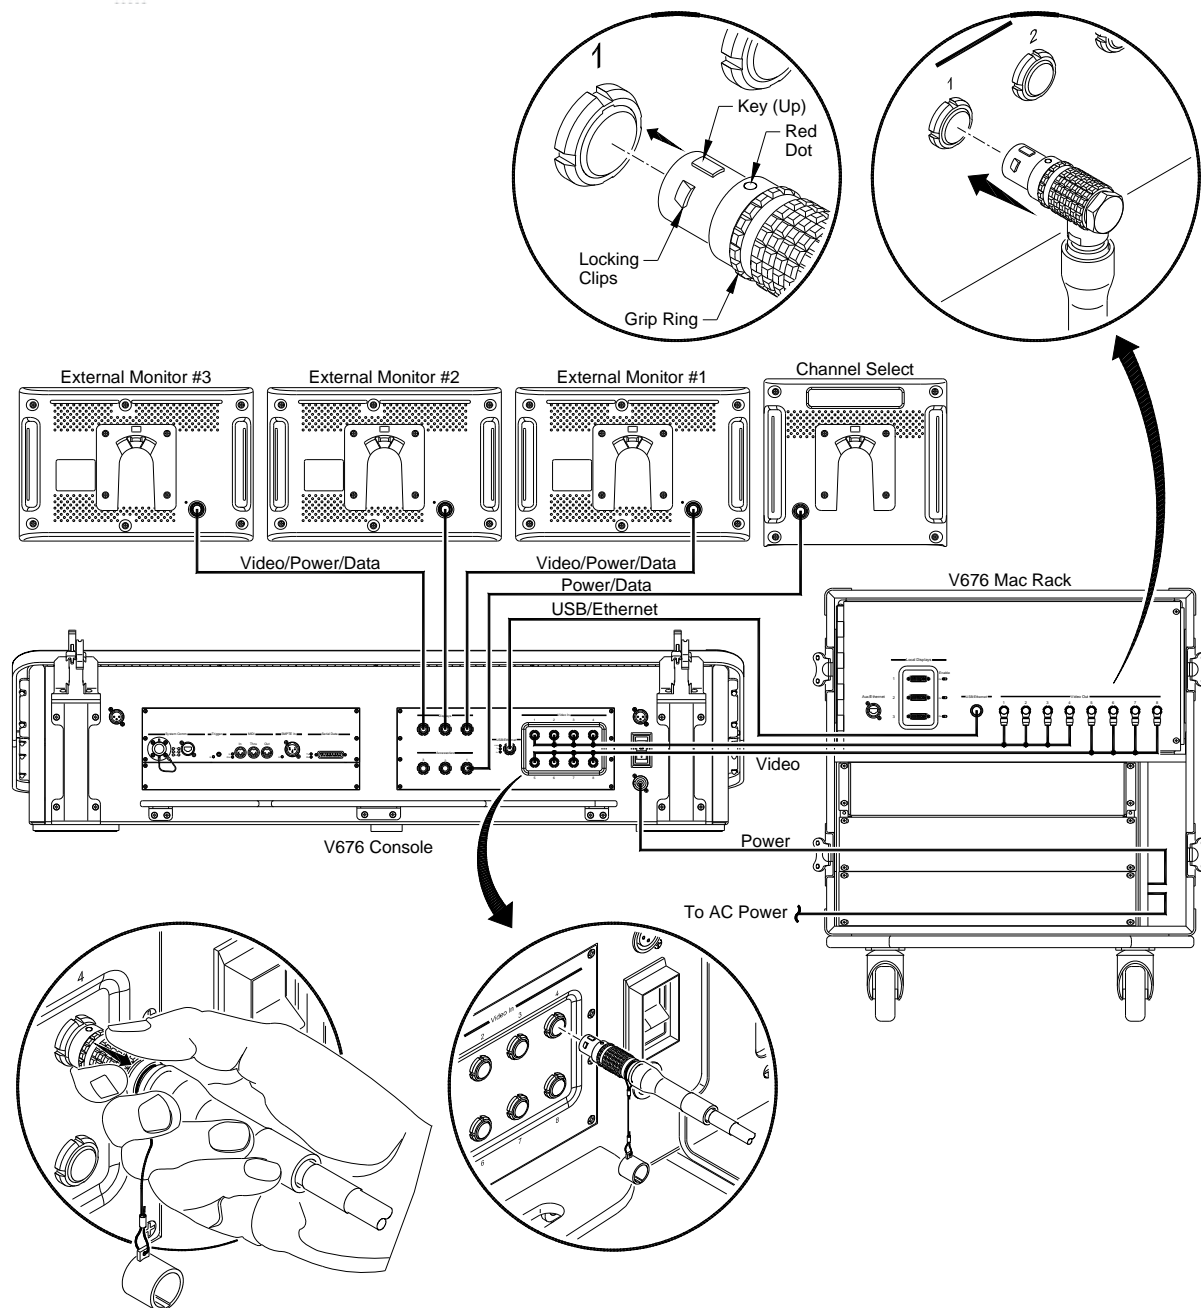
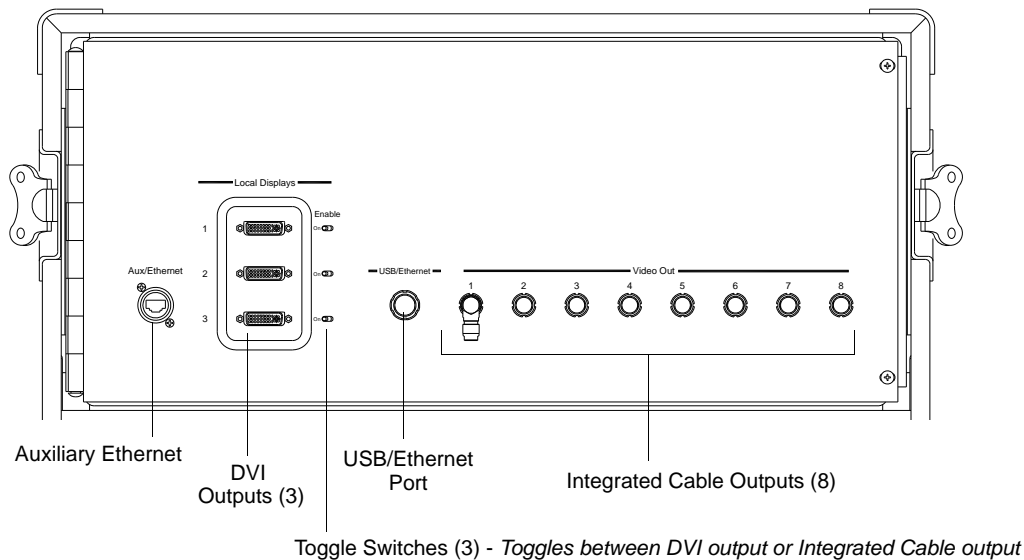

Figure 1-9: Connecting Components and Computer to V676 Console
Figure 1-11: V676 Mac Rack Rear Panel Connections
Step 10. Connect components and computer to console using supplied cables (**Figure 1-9**). Install LEMO style connectors as shown.
- + If an external display is not being used, move the switch on the rack to the external position so the system will know it is not there (to keep the cursor and windows from going to non-existent displays). Refer to **Figure 1-11**.
- + The included monitors are connected at the console rear panel (refer back to **Figure 1-9**). User-supplied, standard DVI monitors can only be connected at the Mac computer rear panel as shown in **Figure 1-11** below.